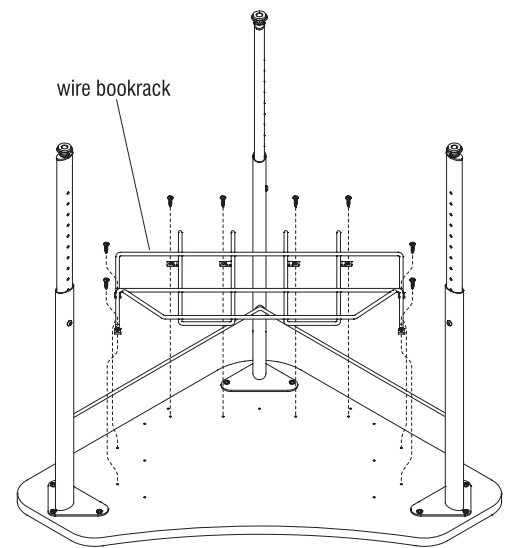

Figure 11
1. Carefully turn the desktop upside down on a soft, protective surface (Figure 11).
Using the appropriate screws (See Details A & B, page 1), secure the wire bookrack to the desktop. Do not overtighten screws (Figure 11).